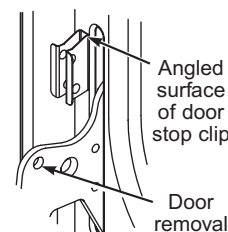

Figure 5
4. See Figure 5. Insert the door stop clip with the angled surface at the top of the